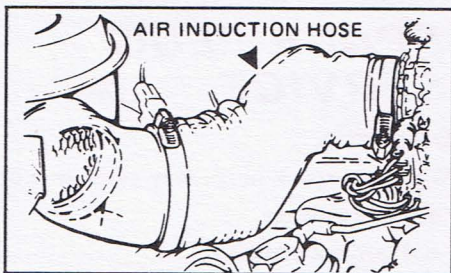

Figure 2 - Air induction hose (V6)
1. On the 4-cylinder, the spark plugs are located on the front of the engine, just below the valve cover. Remove the air cleaner and set it off to the side, without disconnecting any tubing or wiring. On 6-cylinder, remove the air induction hose and set aside. See Figure 2.